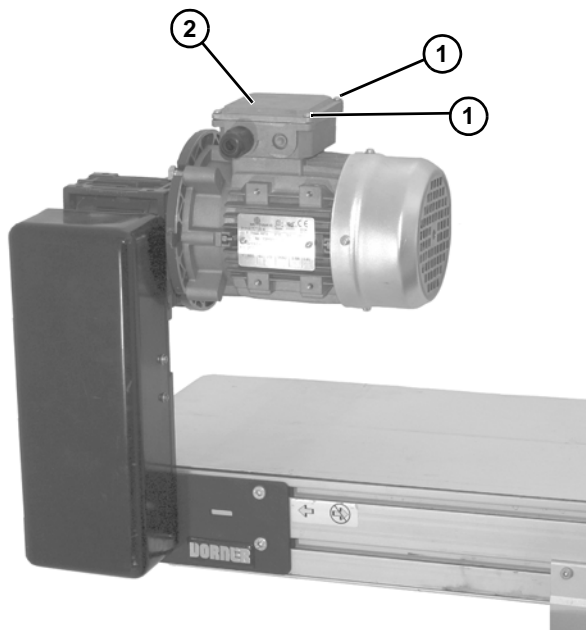

Figure 25
- a. Loosen terminal box screws (Figure 25, item 1) and remove cover (Figure 25, item 2).